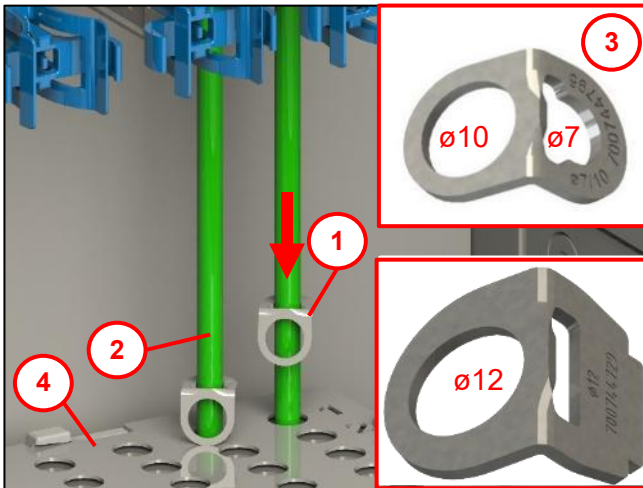

Fig. 16
Note: For reasons of space, the micro-duct pipes (3) ($\varnothing 10$ / $\varnothing 12$) and micro-duct gas stops (2) must be graduated, see Fig. 16.